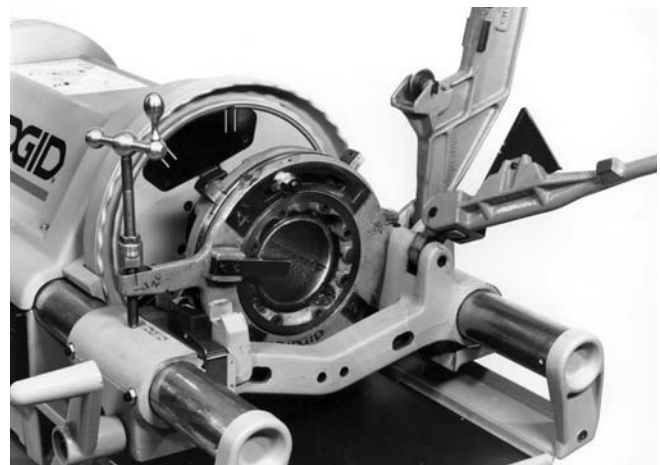

Figure 25 – Cleaning Chip Pan and Oil Filter
2. Clean oil filter screen to assure proper flow of clean oil to work. Oil filter screen is located in the bottom of oil reservoir. (Figure 25)
1. Place container under chip pan drain plug. (Figure 25)